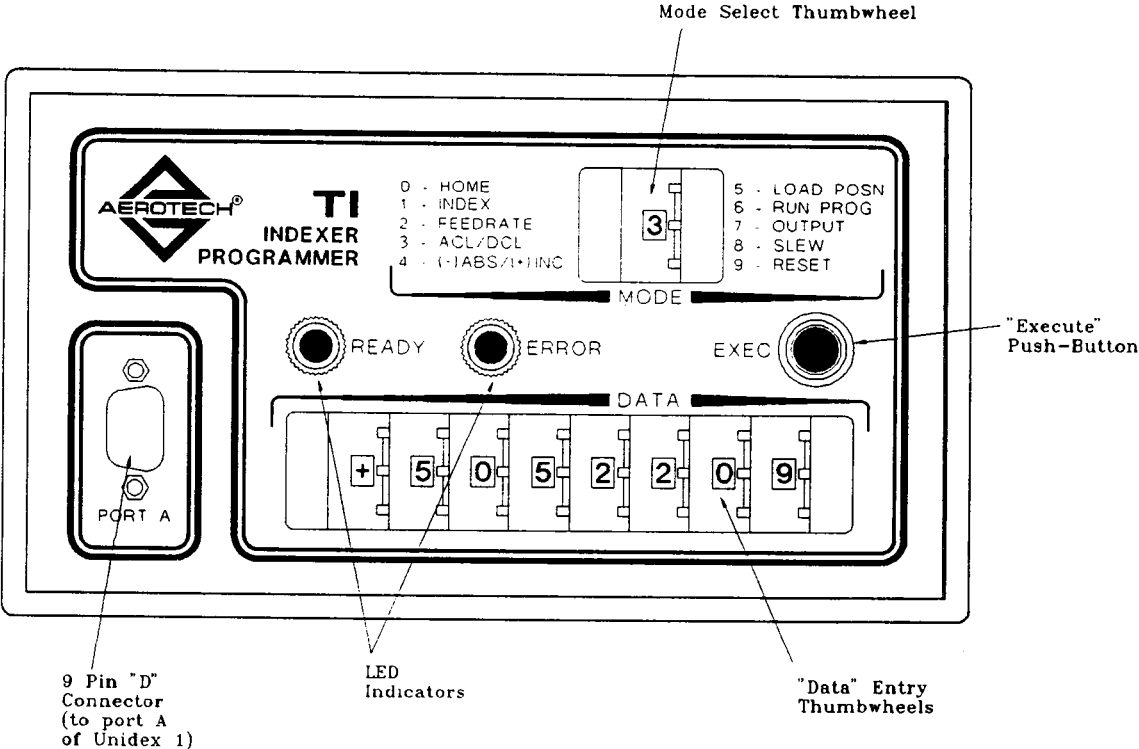

Figure 6-4: Thumbwheel Indexer (TI) Option
The Thumbwheel Indexer (TI) (Figure 6-4) is supplied with a molded interconnect cable that is designed to plug directly into the Communications Interface Connector, Port A, of the Unidex 1 (see Section 2-7). No additional interconnect wiring is required by the User. The TI derives its power directly from the Unidex 1.